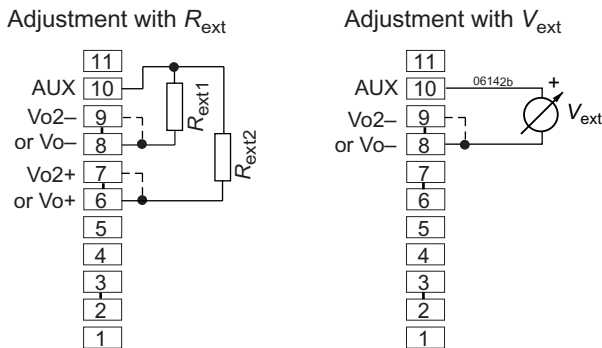

Fig. 20
Resistor R_{ext1}, connected between R (pin 2) and GND1 (pin 1) of the D-SUB connector or according to fig. 20.
Resistor R_{ext2}, connected between R (pin 2) and VCC (pin 3) of the D-SUB connector or according to fig. 20.
Note: If the R function is not included in M1 or M2, refer to figure 20 how to connect R_{ext1} or R_{ext2}.
b) Adjustment by an external control voltage V_{ext} (1.25 – 2.75 V), connected between R (pin 2) and GND (pin 1) of the D-SUB connector or according to fig. 20.